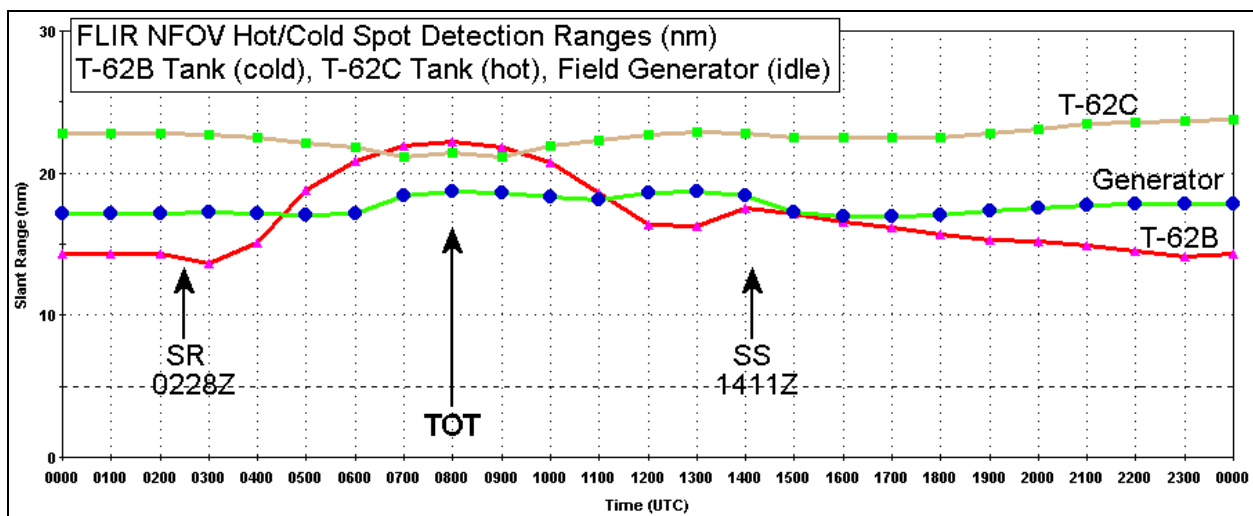

Figure 32 – TAWS range versus time plot
a. Range versus Time products (figure 32): Maximum detection range, whole target detection ranges (where the entire target is evaluated against the background), and/or hot/cold spot target detection ranges (where only the target's hottest or coldest spot is evaluated against the background). Many customers prefer hot/cold spot detection ranges. Ask.